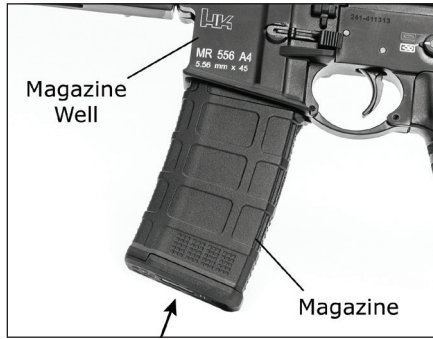

Fig. 11 – Inserting Magazine into the Firearm
4. Insert a loaded magazine into the magazine well until the magazine catch engages the magazine (Fig. 11).